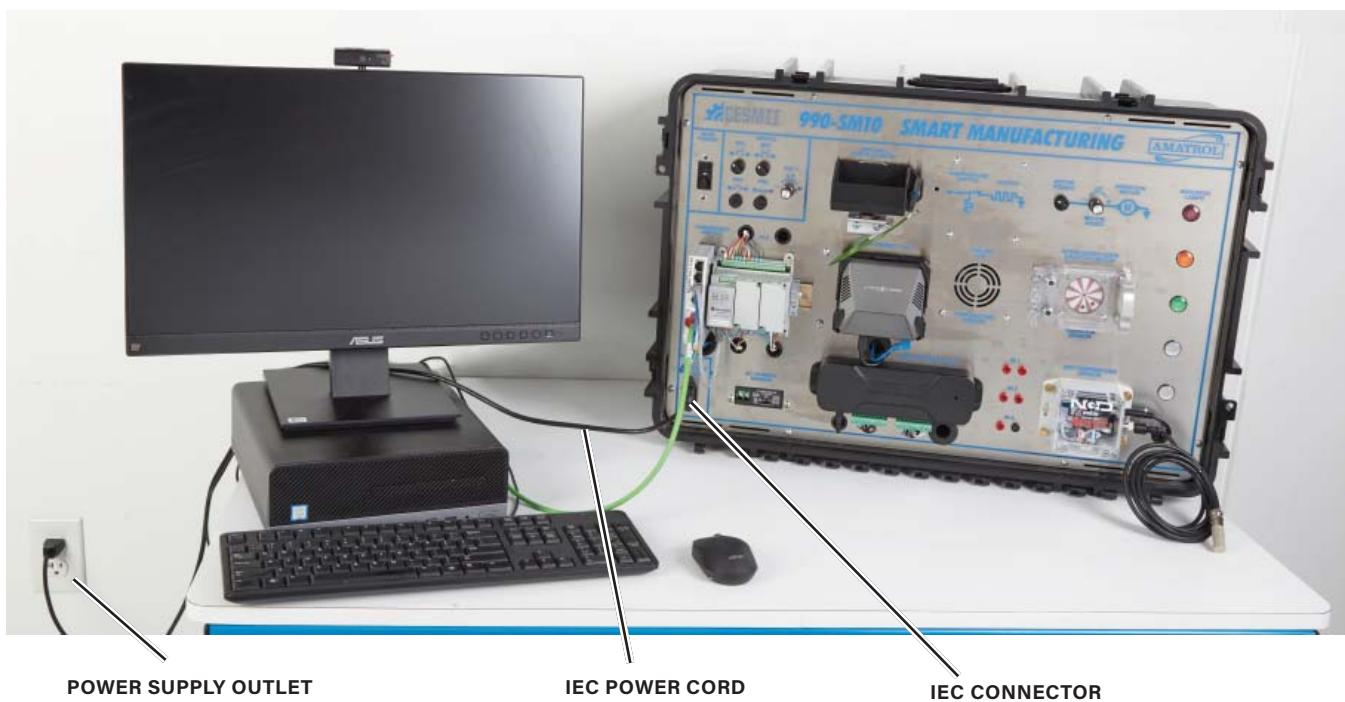

Figure 1-8. IEC Power Cord Plugged into IEC Connector and Power Supply Outlet
A. Connect the IEC power cord to the IEC connector on the workstation and an AC wall outlet, as shown in figure 1-8.